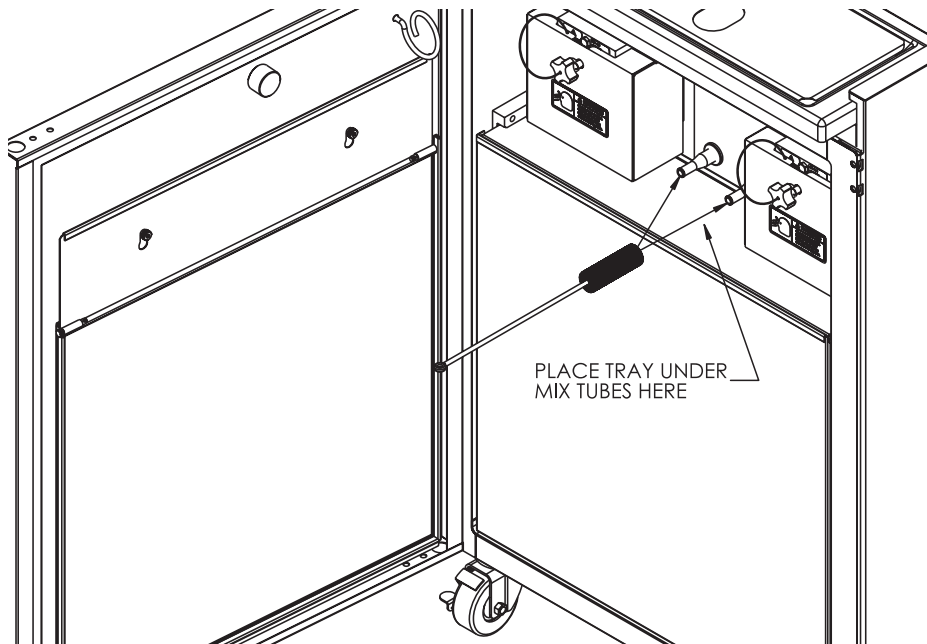

Figure 8-11 Brush inside of cylinder mix feed tubes
- a. mix feed tubes from the refrigerated cabinet to the cylinders as shown in figure 8-11
- c. the inside of the drain tube as shown in figure 8-11.